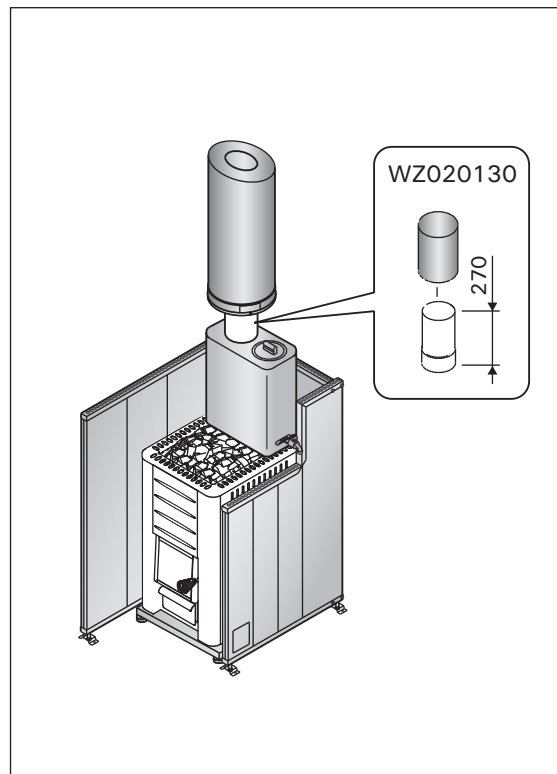

Figure 3. Radiation cover
- If the chimney is connected to a sauna stove equipped with a pipe-model water heater, the bare part of the smoke pipe must be equipped with a radiation cover. Figure 3.